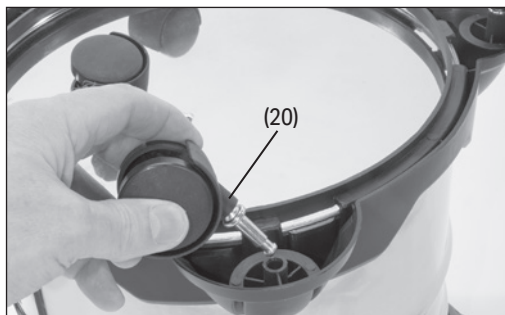

Fig. 1
### 6.1 Attaching the Castors (Fig.1)
- Remove the power head (8) and turn the tank (2) upside down.
- Then firmly push the four castors (20) into the underside of the tank base. (Fig. 1).